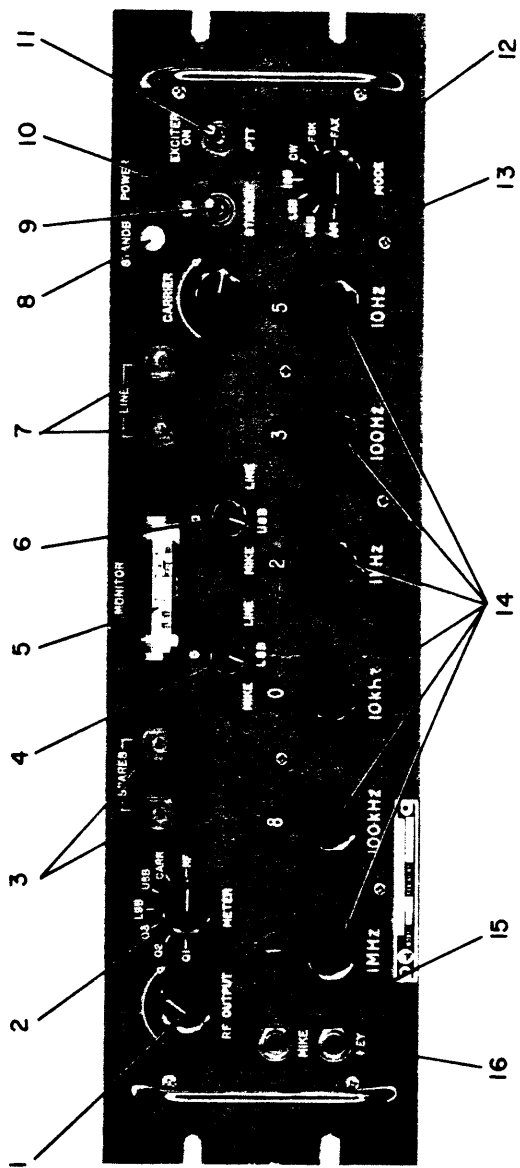

Figure 3-1. Operating Controls, Indicators, and Connectors
Unless otherwise indicated, item numbers (numbers in parentheses) are callouts referred to figure 3-1.
3-2. CONTROLS AND INDICATORS(See figure 3-1)
All operator controls, indicators and connectors are located on the front and rear panels of the Exciter. Figure 3-1 illustrates the locations of all operator controls, indicators and connectors, while table 3-1 lists the controls, indicators and connectors and provides the panel designation and function of each.
Verify that ON/STANDBY switch (9), figure 3-1) is set to STANDBY.